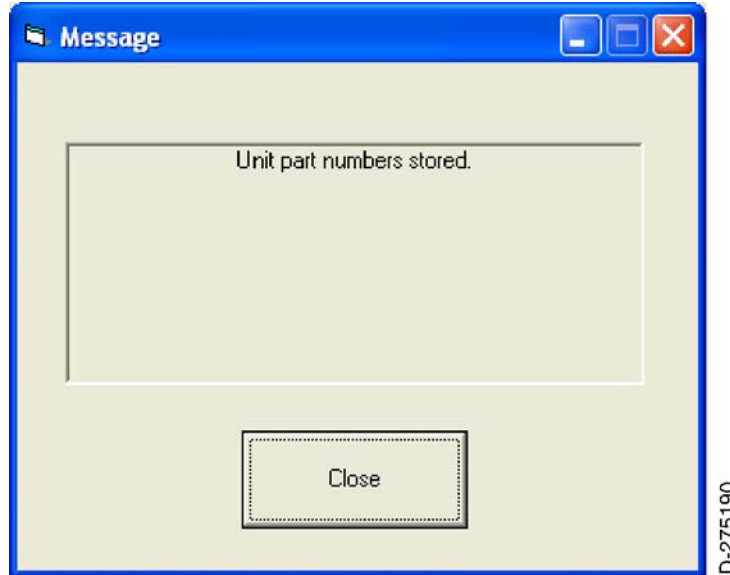

Figure 45. (Sheet 1 of 1) Message Window (Store Unit Part Number)
- (5) Click the Store Unit Part Number button. The Message window shown in Figure 45 will be displayed if the unit part number has been stored successfully.